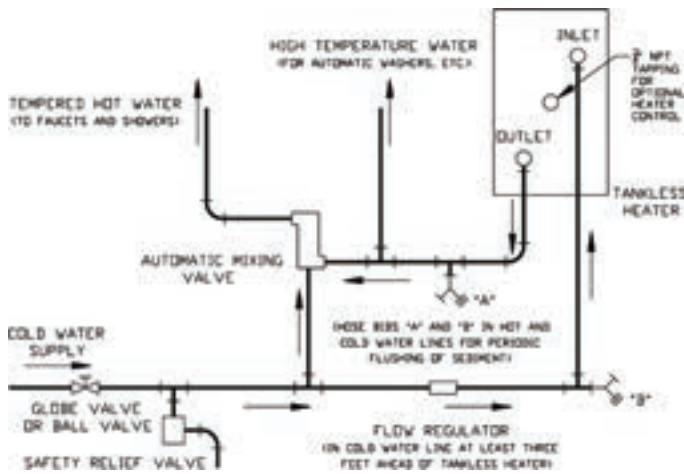

Figure 37a: Schematic Tankless Heater Piping
Figure 37a depicts the addition of an automatic mixing valve to the tankless heater piping to obtain a dual temperature domestic system. The mixing valve provides tempered water to the fixtures, while the branch prior to the valve provides high temperature water for dishwashing, washing machines and other appliances.
M. CONNECT TANKLESS HEATER PIPING as shown in Figure 37a. See Table IV for Tankless Heater Ratings.
If flow through the heater is greater than its rating, the supply of adequate hot water may not be able to keep up with the demand. For this reason a FLOW REGULATOR matching the heater rating should be installed in the cold water line to the heater. Refer to Figure 37a for piping recommendations. Locate the flow regulator below the inlet (cold water side) of the heater and a minimum of 36" away from the inlet so that the regulator is not subjected to excess temperatures during "off" periods when it is possible for heat to be conducted back through the supply line. The flow regulator will limit the flow of supply water regardless of inlet pressure variations ranging from 20 to 125 psi.
Refer to Figure 37a for piping recommendations. Adjust and maintain the mixing valve in accordance with manufacturers instructions.
All water contains some sediment which settles on the inside of the coil. Consequently, the heater should be periodically backwashed. This is accomplished by installing hose bibs as illustrated in Figure 37a and allowing water at city pressure to run into hose bib A, through the heater, and out hose bib B until the discharge is clear. The tees in which the hose bibs are located should be the same size as heater connections to minimize pressure drop.